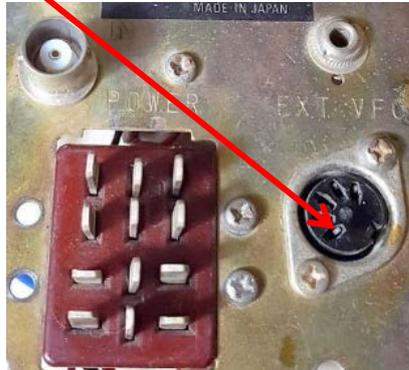

Figure 6
- Route the white wire, which is soldered to the new display board, to the rear panel and solder it to the connector (pin1) of the EXT VFO socket. (see Figure 6).